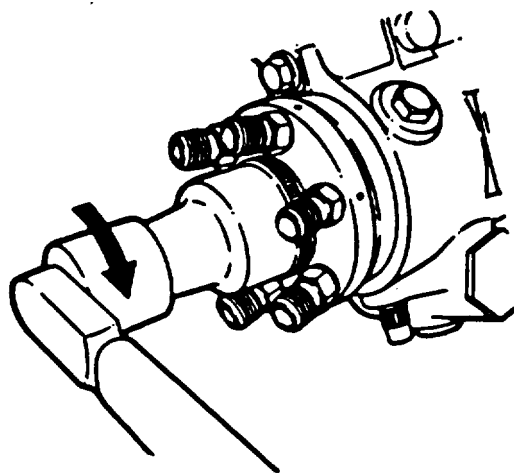

FIGURE 3-87. Installing End Cap (Typical)
- ci. Position washer (11), new lockwasher (10), and terminal strap (9) on solenoid studs. Secure with two self-locking nuts (8).
- cj. Position new gasket (7) and cover (6) on housing and secure with two screws (3), new lockwashers (4), and washers (5). Tighten screws 35 to 45 in-lbs (4 to 5 Nm). Install cup (88), screw (87), and cap (86).
- ck. If removed, install new preformed packing (2) and connector (1) in cover (6). Tighten connector 43 to 53 in-lbs (5 to 6 Nm).
- cl. Using end cap socket (20548), tighten end cap (5, FIGURE 3-52) using appropriate end cap wrench 30 to 33 ft-lbs (41 to 44 Nm), refer to FIGURE 3-87.